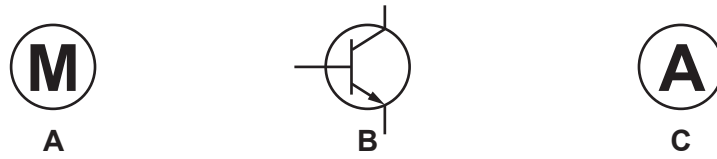

Fig. 6.1
- 6 Fig. 6.1 shows three electronic symbols.